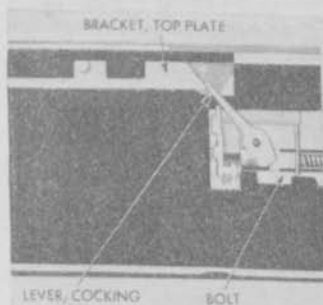

FIGURE 35.—Action of cocking lever at start of recoil.
74. COCKING.—The act of cocking the gun is begun as the bolt starts to recoil immediately after firing. The tip of the cocking lever which is in the V-slot in the top plate bracket, as shown in figure 35, is forced forward. The cocking lever is pivoted so that the lower end forces the firing pin extension rearward. The firing spring is thus compressed against the